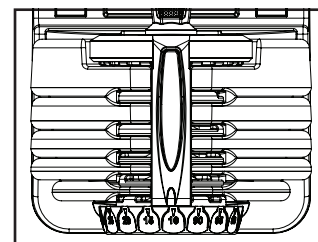

Figure 1
3. The weight increments range from 10 lbs to 90 lbs (4.5 to 41 kg) on both adjustment knobs. To properly select a given weight (20 lbs [9 kg] for example), rotate both adjustment knobs until that number (20) is aligned with the arrow located on the outward edge of the BowFlex nameplate (Fig.1).